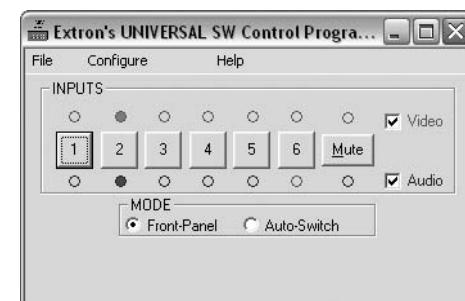

Figure 3-4 — Universal Switcher Control program window
3. The Extron Universal Switcher Control Program window (figure 3-4) displays the selected video and audio input.